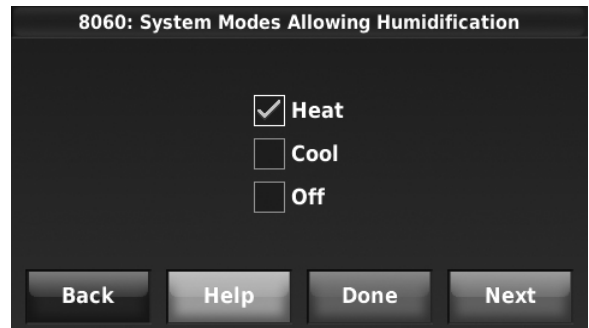

Fig. 109.
- Select the system mode(s) to allow humidification. See Fig. 109.